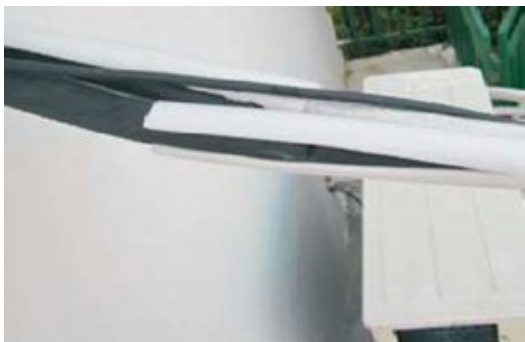

Fig. 4.13
9. Then wrap up the connectors with the black insulation material, for the top exposed part, use the white insulation material (supplied in Accessories box) to wrap it up completely as shown in Fig.4.13.